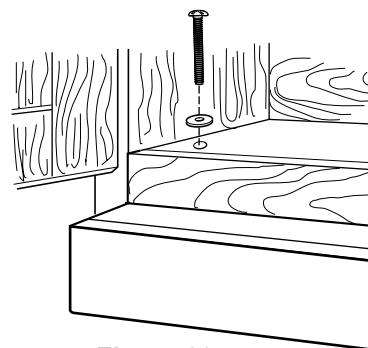

Figure 30
4. Place washers over two 1/4"x3" bolts. Then insert a bolt down through each hole in the upper cabinet bottom. Tighten the bolts until the gap between the upper cabinet and microwave oven is closed. See Figure 30.